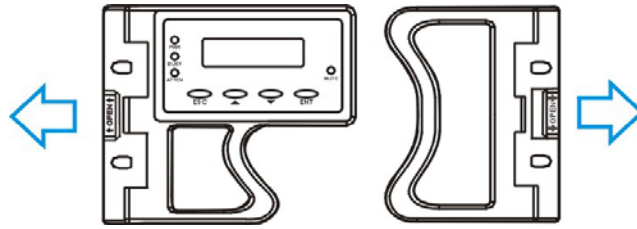

Figure 5- 11: Forearm Handle Locking Mechanism
- ♦ **Forearm handles:** If the hard drive is behind either the left or right forearm handle, make sure that the locking mechanism on the side of the handle is first released prior to opening the handle itself. (See **Figure 5- 11**) The locking mechanism must also be released in order to close the handle. Therefore, after the new drive has been installed, it will be necessary to release the locking mechanism on the handle prior to closing it. For more information, please refer to **Section 1.5** in **Chapter 1**.